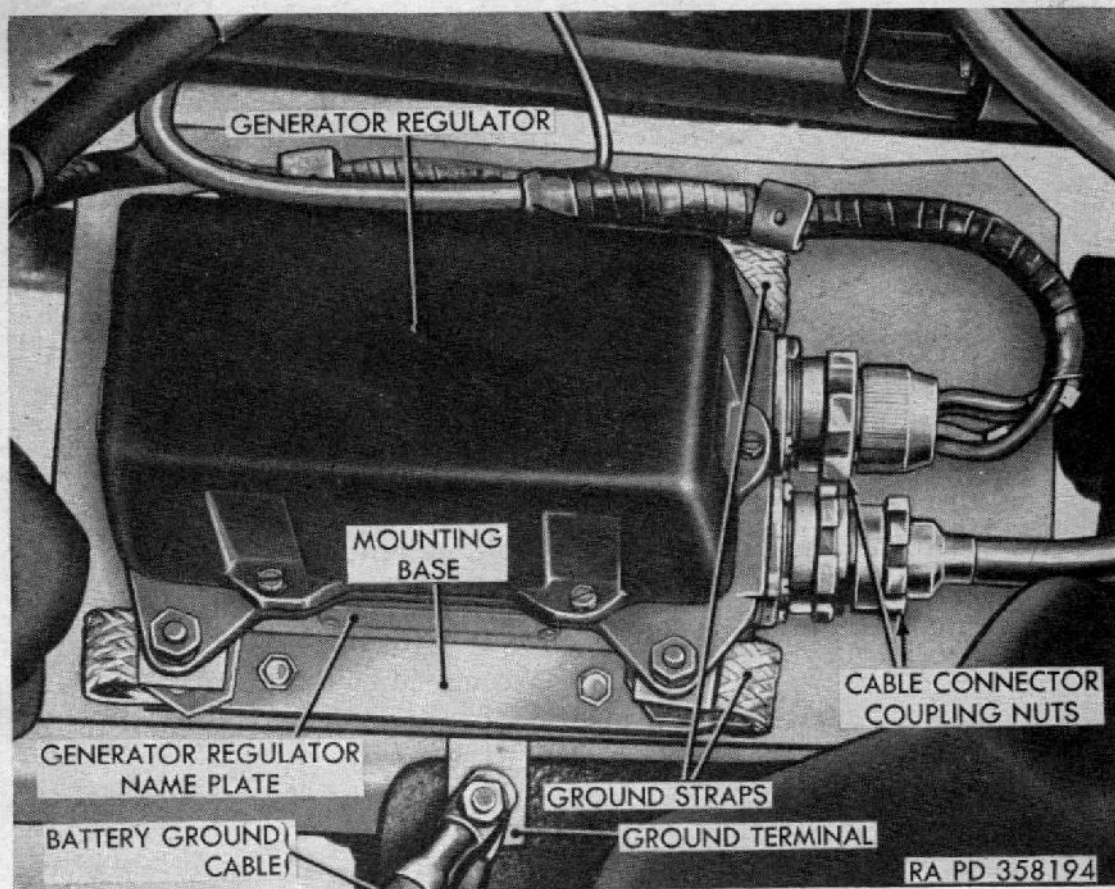
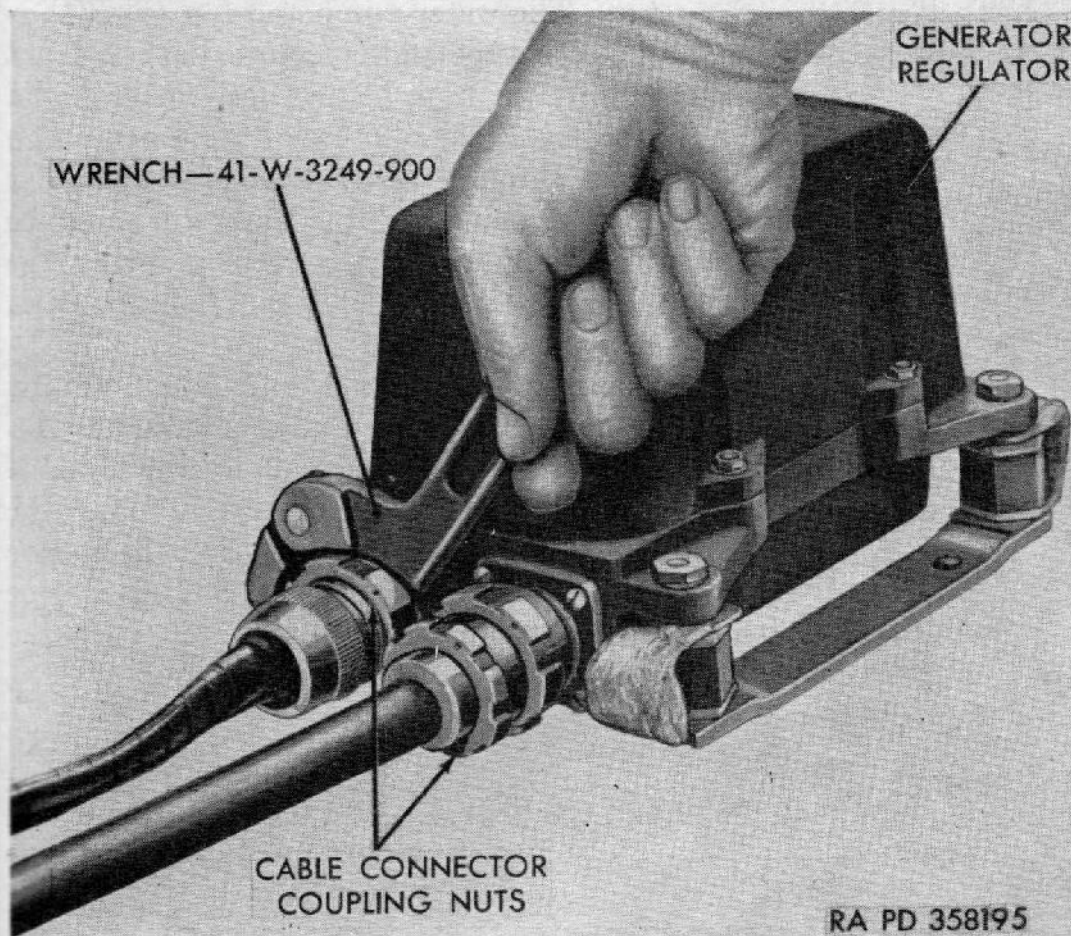

Figure 69. Generator regulator installed.
Figure 70. Tightening cable connector coupling nut with wrench 41-W-3249-900.
- (3) *Generator regulator.* The generator regulator (fig. 69) consists of three units; the voltage regulator, current regulator, and circuit breaker. The voltage regulator unit protects the batteries by controlling the voltage and prevents overcharging. The current regulator unit controls the amperage output and prevents generator damage due to overload. The circuit breaker unit is an automatic switch controlling the flow of current to all electrical accessories. All three units are enclosed in a watertight housing.
*a. Removal.* Remove the drive belts adjusting screw (fig. 68) and swing generator up toward engine. Remove both drive belts from generator drive pulley. Unscrew cable connector coupling nut at receptacle with wrench 41-W-3249-900 (fig. 70) and pull generator cable plug out of receptacle. Remove the two mounting bolts from the generator support and remove the generator.
*a. Removal.* Using wrench 41-W-3249-900 (fig. 70), unscrew the two cable connector coupling nuts (fig. 69) and pull out the coupling plugs. Remove the four nuts and flat washers securing generator regulator to mounting base and remove generator regulator.
*b. Installation.* Place the generator regulator (fig. 69) in position on mounting studs, making sure all four ground straps and external tooth lock washers are in place. Secure generator regulator to mounting base with four nuts and flat washers. Connect coupling plugs and tighten the cable connector coupling nuts securely with wrench 41-W-3249-900 (fig. 70).